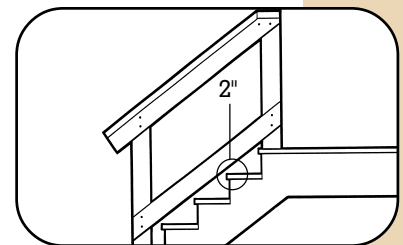

Fig. 40
- Once the top Side Rail has been installed, place one Side Rail at the bottom of each Rail section (Fig. 40). Pre-drill and place two #8, 2-1/2" stainless steel or galvanized deck screws 1" from the end of each Side Rail and fasten into each 4x4 post- be sure to level and square the bottom Side Rail. **There should be no more than 2" from the leading edge of the step surface to the bottom edge of the Side Rail\*** (Fig.40).